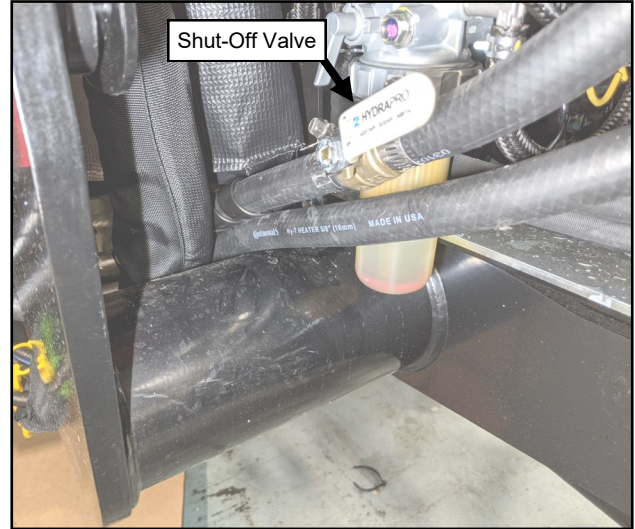

Fig. 18.14 (Heater Shut-Off Valve)
- 18.14** At installer's preference, select a location to splice the supplied shut-off valve into the supply line coming from the nipple in the sending unit adapter. See Figure 18.14.